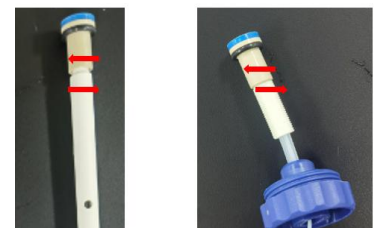

Figure 3.3 Fix Inner rod
- c. Tighten the adjuster knob. See step 3 in figure 3.3.
- 2) Take out the inner rod, tighten the screw structure between inner rod and plunger. See figure 3.3.